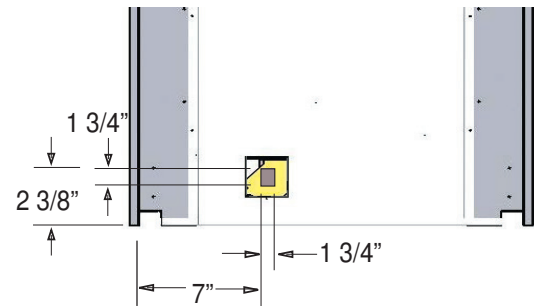

Figure 19. Gas line access.
- See Figure 19 for location of gas line access.